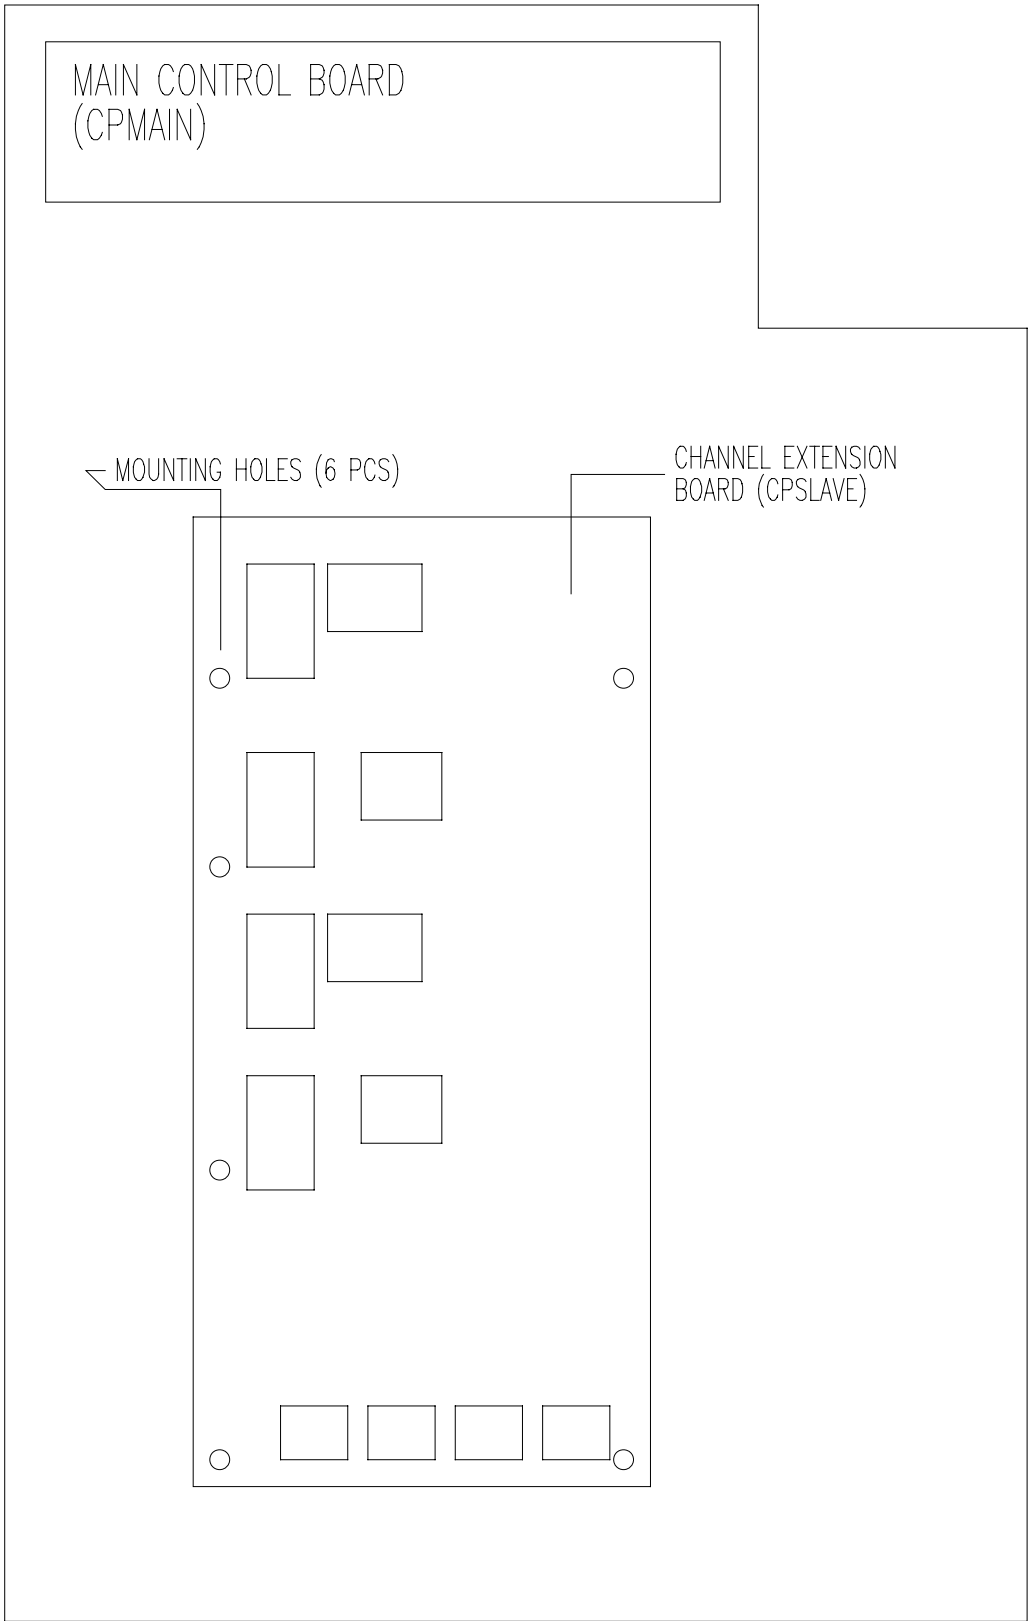

Figure 2-77.1 Channel Extension Board Mounting Location
- 2-77 The standard control panel, Model GDCP-0, is supplied with all the required spacers and standoffs for mounting the optional board, CPSLAVE. With all power removed from the unit, the board is positioned over the mounting standoffs and aligned with the 32 pins projecting up from the main control board, CPMAIN. These 32 pins provide all the input and output signals between the main board and the optional board. Fig. 2-77.1 shows the location of the optional board when properly aligned. With all 32 pins positioned within the matching sockets on the optional board, gently push downward. When fully seated, the bottom of the board will contact the aluminum grounding spacer and the five plastic standoffs used to secure the optional board. You should be able to see the top of each pin protruding through the mating socket. The pins will stop approximately even with the top of the sockets. Complete the installation by installing and tightening the six screws, supplied with the board, into the